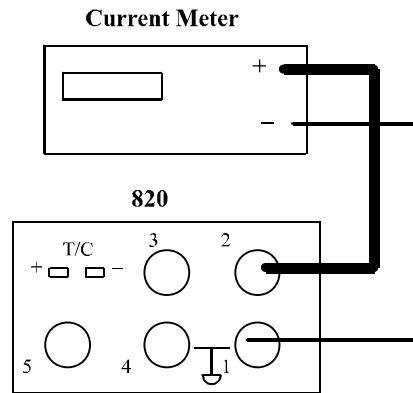

FIGURE 2
2. Lo Calibration: Connect terminals 1 and 2 from the 820 to a Current Meter (See figure 2). Dial the 820 so the meter reads 0.000mA. Press *STORE*; make sure you hear a beep, then press *RANGE/TYPE*.